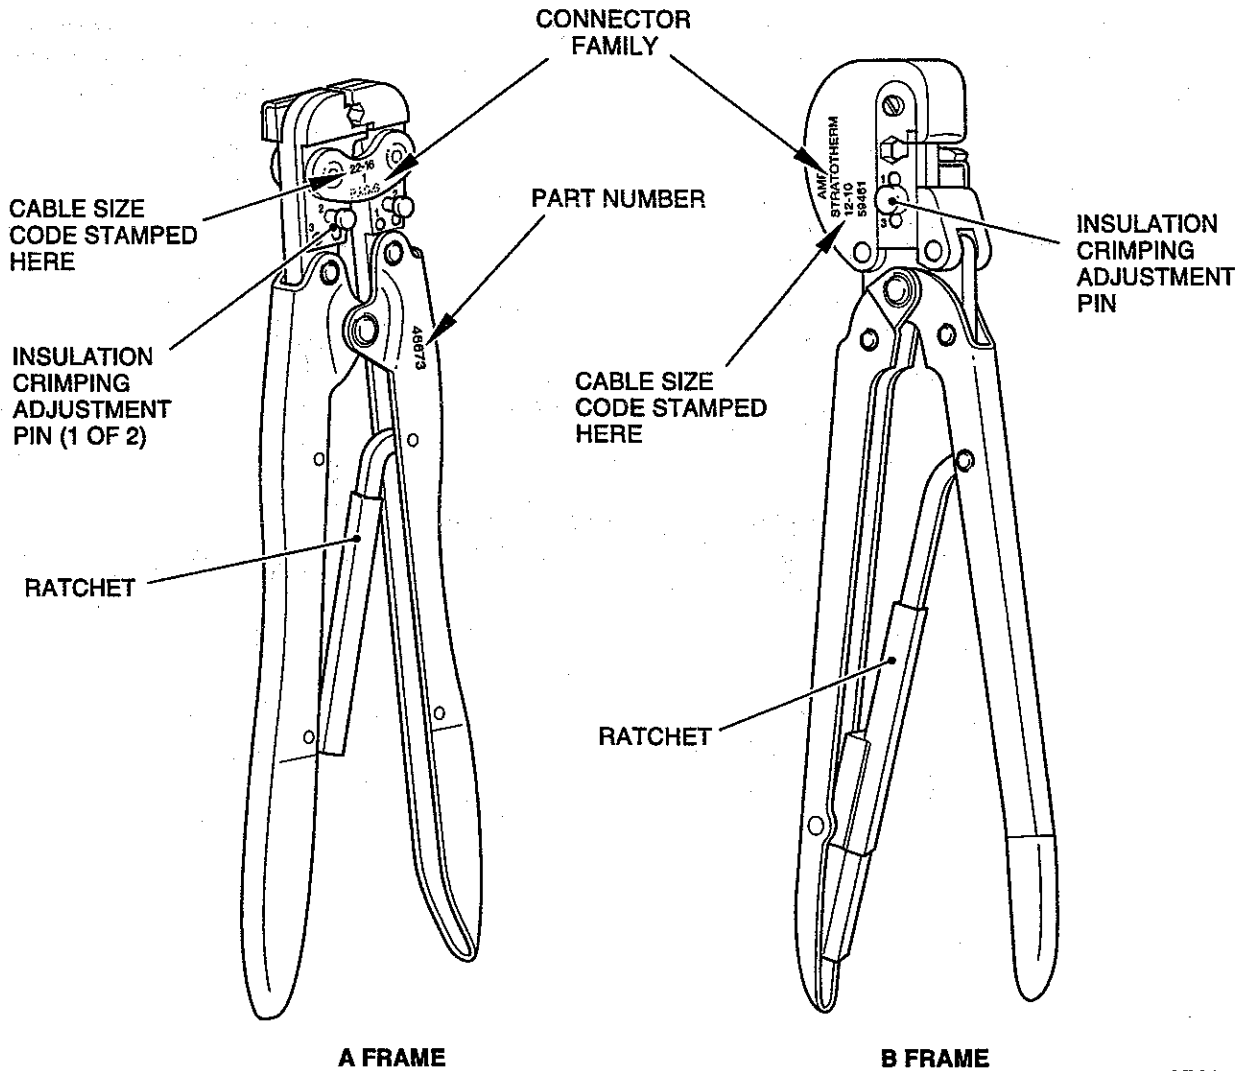

Fig 3 Hand-operated crimping tools
5 Two types of hand-operated crimping tool may be used for crimping the thermocouple DIAMOND GRIP terminations - an 'A' frame type and a 'B' frame type (see Fig 3). The following description of how to adjust and operate tools applies to both types.
- 9 The following procedure applies to both types of hand crimping tools (see Fig 3).